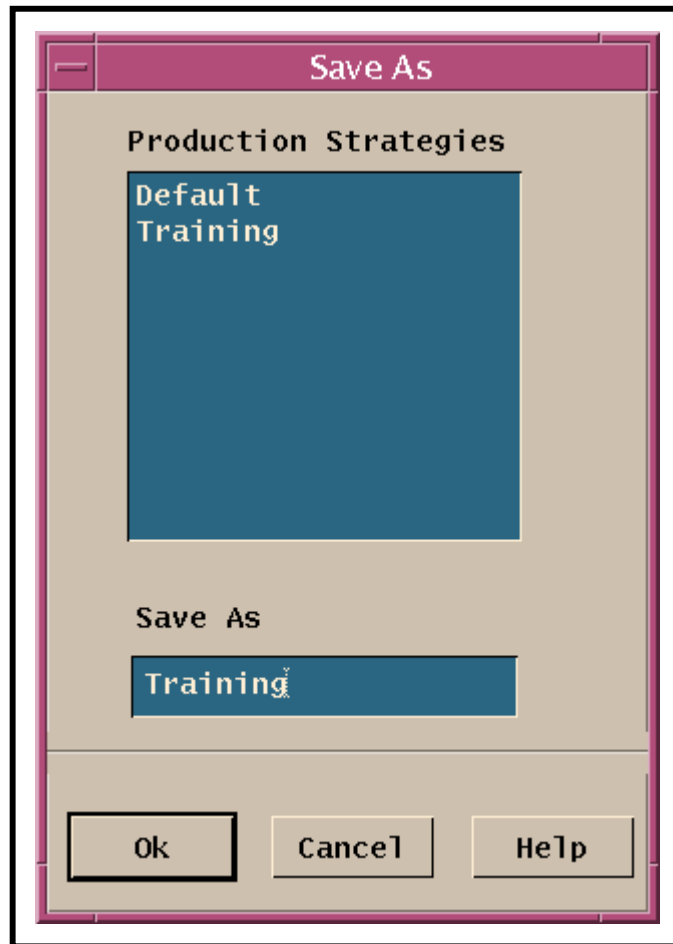

Figure 42. Production Strategies “Save As” Window
- A **Save As** window (Figure 42) is displayed.